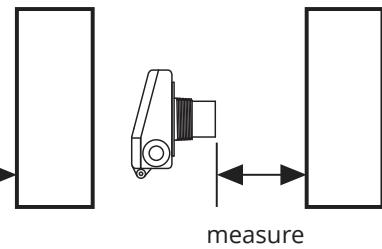

Figure 4.2
- Point the sensor at a target near the minimum measurement range, approximately 1 foot, plus any Blanking distance (See Figure 4.2).